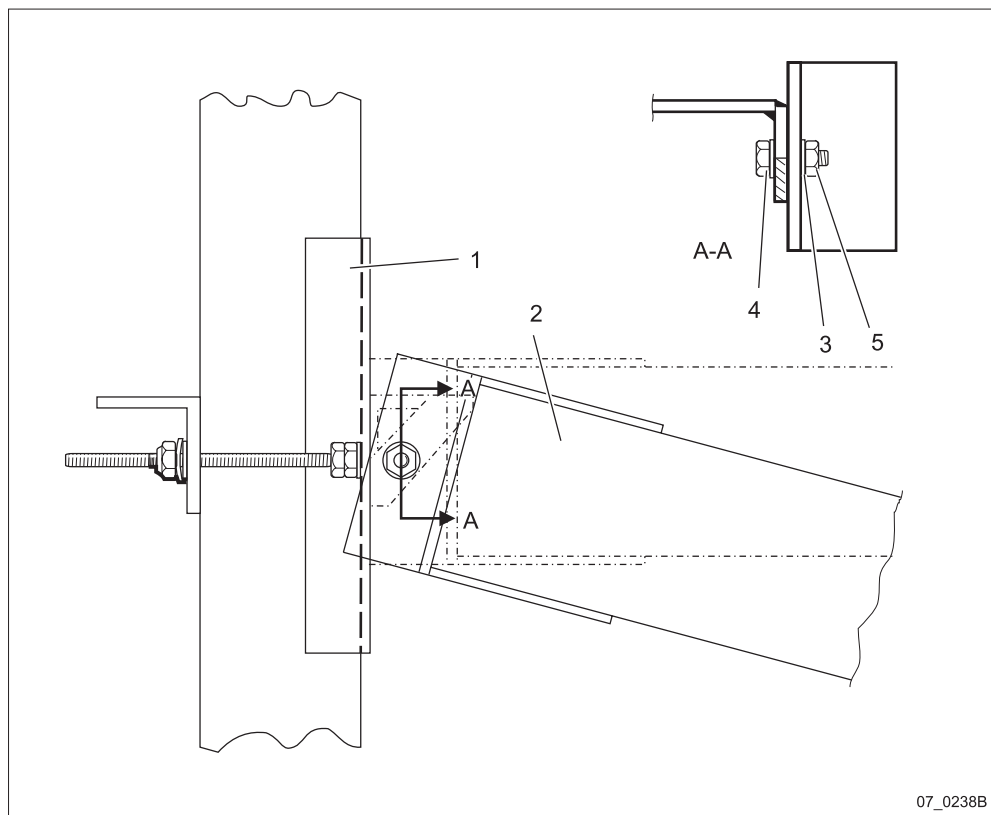

Figure 7
See figures 7 and 8.
2. Mount two screws, (pos 3) in figure 7, when the hinge is fitted, together with the plain washers (pos 4) from the inside of the hinge.
3. Mount a plain washer (pos 4) and a locking nut (pos 5) onto both screws.